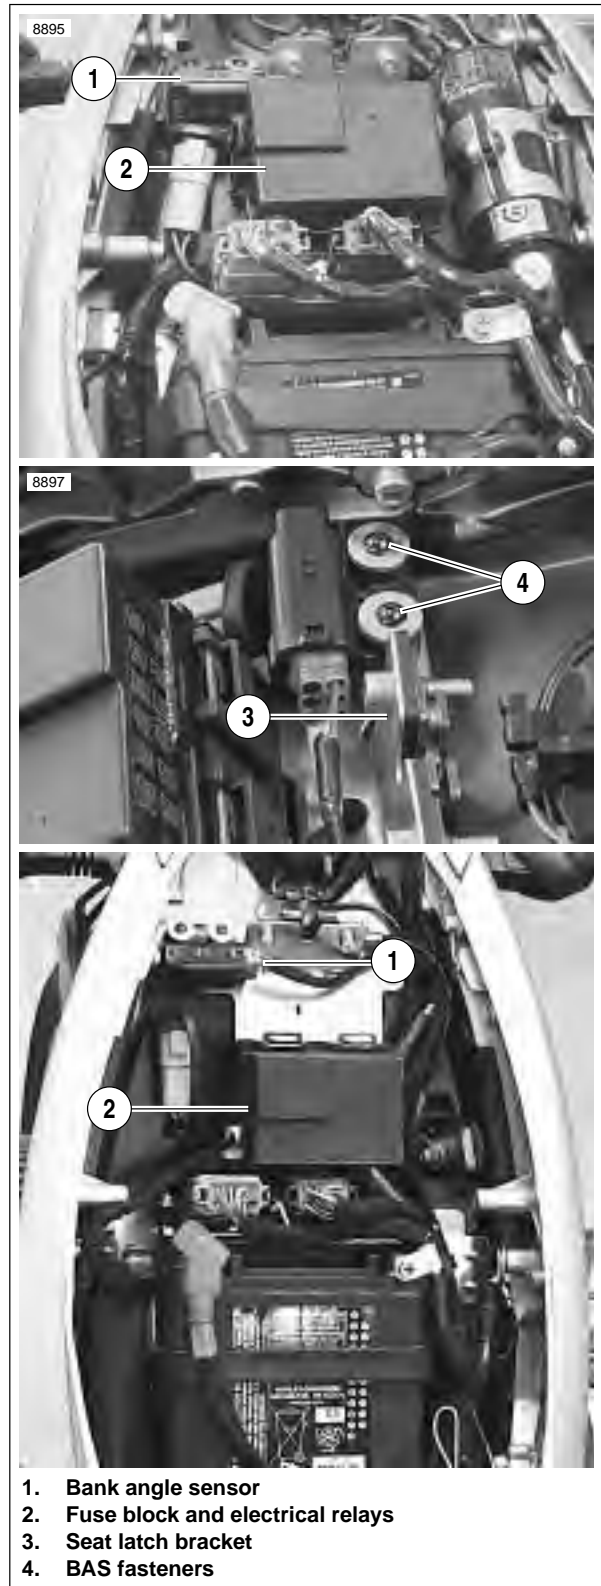

Figure 4-84. Bank Angle Sensor Location
3. See Figure 4-84. Remove screws and washers to detach sensor from seat latch bracket.
1. See Figure 4-84. Install bank angle sensor connector [134].